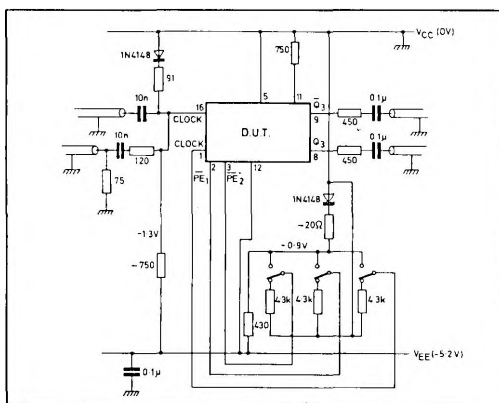

Fig. 5 Test circuit for dynamic measurements
- The devices are dynamically tested using the circuit shown in Fig. 5. The bias chain has the same temperature coefficient as ECL III and ECL 10K, and therefore tracks the input reference throughout the temperature range. The devices are tested with input amplitudes of 400 and 800 mV p-p about reference, over the full temperature range.